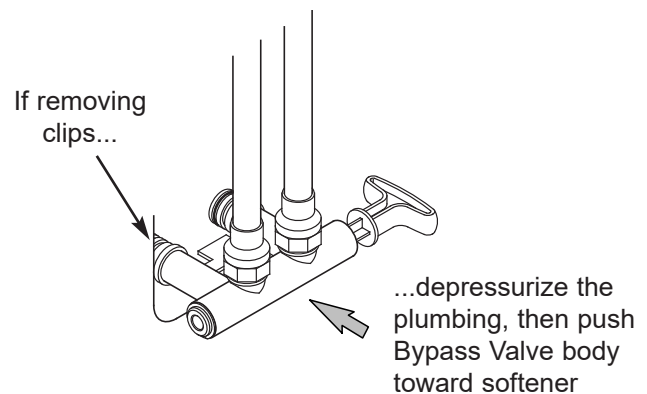

FIG. 15
- g. Check for leaks around clips at softener's inlet and outlet. If a leak occurs at a clip, depressurize the plumbing (turn off the water supply and open faucets) before removing clip. When removing clips at the softener's inlet or outlet, push the single bypass valve body toward the softener (See Figure 15). Improper removal may damage clips. Do not reinstall damaged clips.